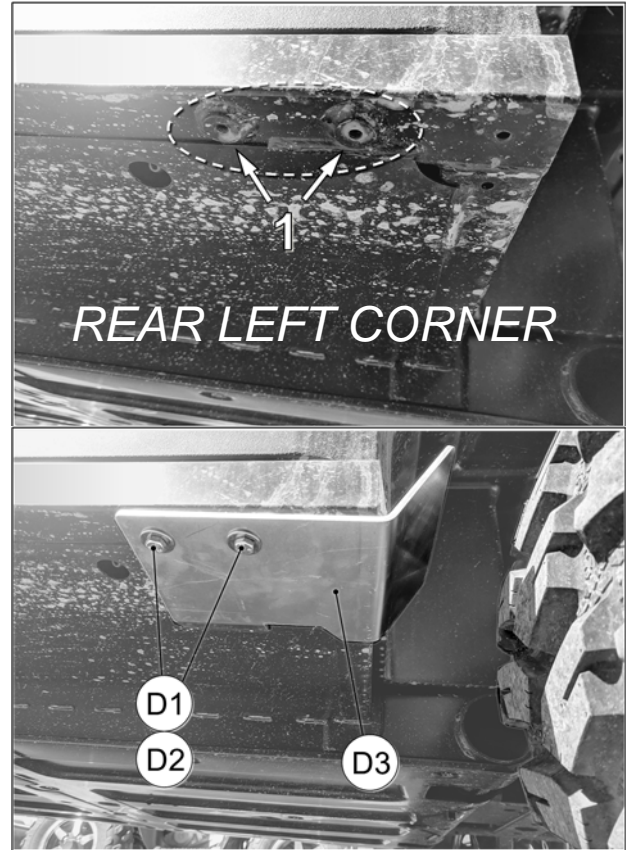

Fig. 25
1. Install the LH footrest protector (D3) under the rear left corner of the vehicle's cab, using the existing threaded holes (1) in the frame and the provided bolts (D1) and washers (D2). See Fig. 25